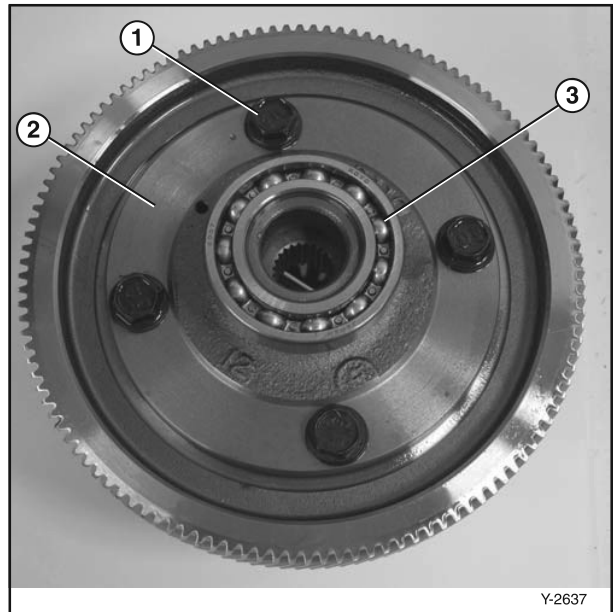

Figure 6-73
6. Remove the bolts and nuts (Figure 6-73, (1)) and remove the ring gear (Figure 6-73, (2)) from the differential assembly.
7. Inspect the bearings (Figure 6-73, (3)). They must rotate smoothly and quietly.